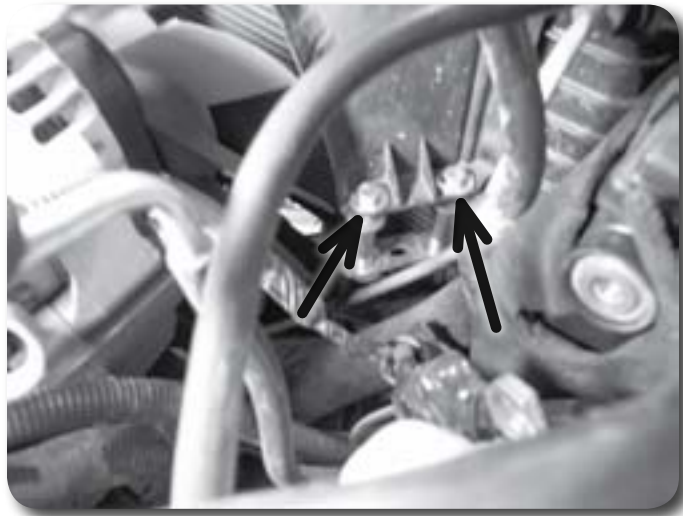

Figure 32
61. Attach the lower fan shroud to the upper fan shroud with four 2" long metal spacers, four 3/8" x 3-1/2" bolts, nuts, and sixteen 3/8" USS washers. The washers mount on both sides of the shroud flange to "sandwich" the plastic **Figure 32**.